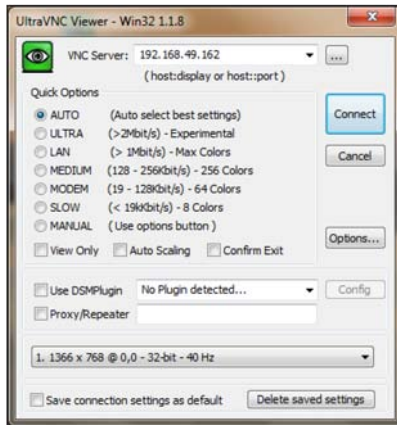

Fig. 3 Screen Ultra VNC Viewer-Setup
- ➡ After input of the IP address of the thermoIMAGER TIM NetPC, which in this case comes from a DHCP1 server, please press `Connect`, see Fig. 3.